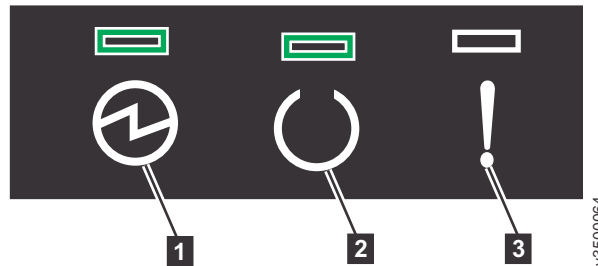

Figure 37. Expansion canister LEDs
2. Check the LEDs on each expansion canister (see Figure 37).